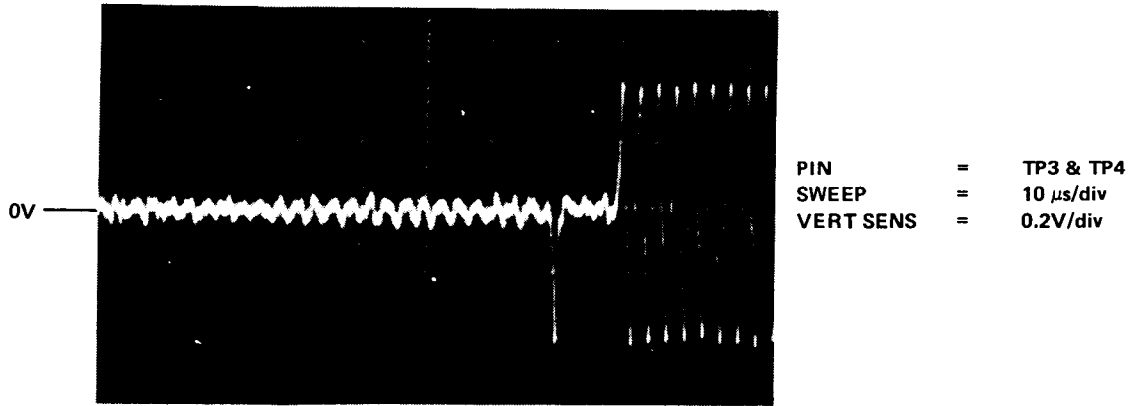

Figure 5-25 Index/Sector Waveform
11. Expand the sweep time to 10  $\mu$ s/div and check that the single pulse occurs  $70 \pm 10 \mu$ s from the start of the sweep (Figure 5-25).